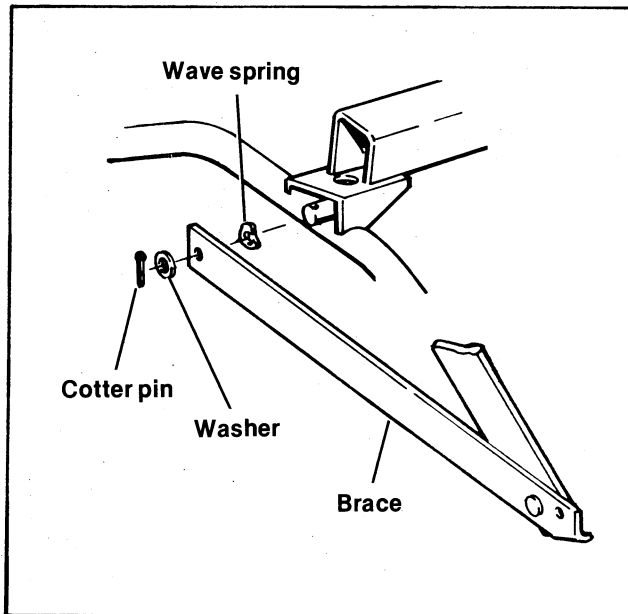

Figure 9-7. Body Side Brace
2. See Figure 9-7. Remove the cotter pin, washer, brace and wave spring from each side of frame and then lower body to its original position.
3. Figure 9-7. Install a wave spring and brace on each side of the frame and secure with a flat washer and cotter pin.